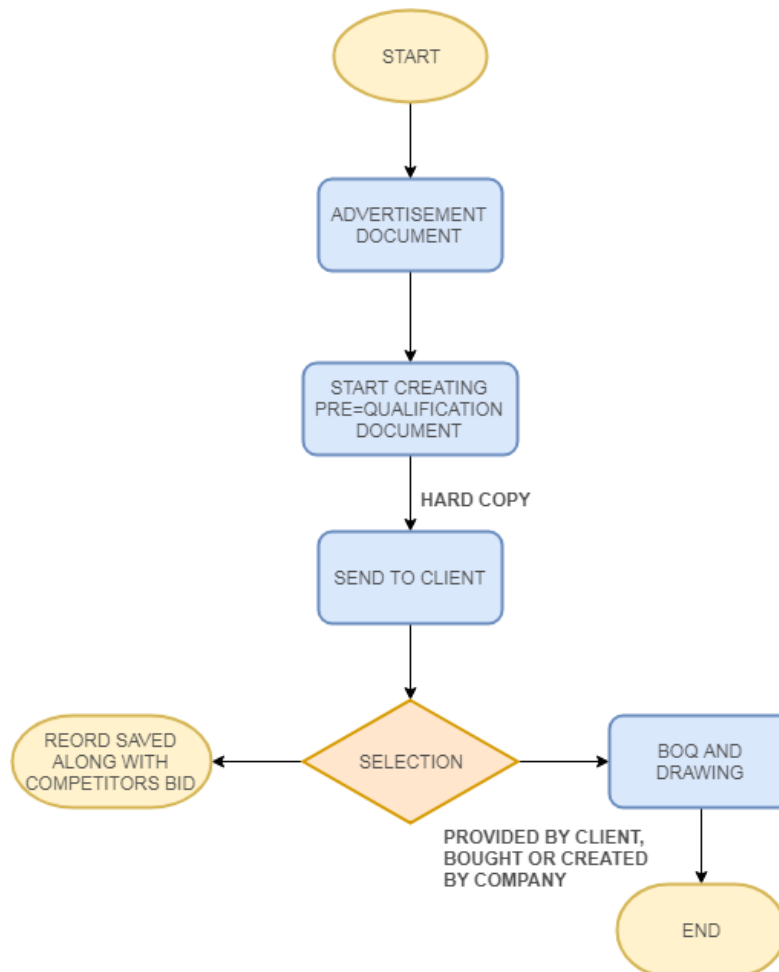

Figure 2.5
2. If the project came to acknowledgement through Newspaper Advertisement, then the company prepares a **Pre-qualification Document** for **Pre-qualification**. Now the question raises what the pre-qualification actually is (*Refer Figure 2.5*).
3. After selection of the specific advertisement, already given details (*refer figure 2.5*) will be displayed.